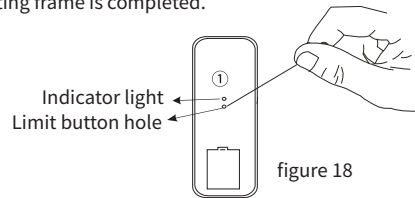

figure 18
- Use a small paper clip or small round needle to insert the electronic positioning setting key hole of the elevator on the back of the remote control (as shown in figure 18), press the electronic positioning setting key of the elevator, the red and blue LEDs will light up, and then press the elevator Rack down button, at this time, after the lifting frame is lowered to a suitable position, press the stop button of the remote control as shown in figure 19), and then press the electronic positioning setting button of the lifting button, the red and blue light-emitting diodes are off, and the lifting frame moves up and down. The electronic lower limit setting of the lifting frame is completed.